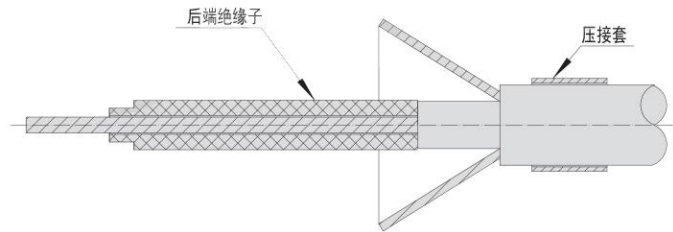

Figure 1.10
③ Slide the rear end insulator onto the cable center conductor as shown in Figure 1.10, and tighten the backshell end to the cable insulation medium.